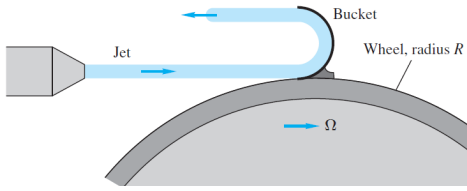

Fig. 3.12
- 3.12 A liquid jet of velocity v_j and area A_j strikes a single 180° bucket on a turbine wheel rotating at angular velocity Ω , as in Fig. 3.12. Derive an expression for the power P delivered to this wheel at this instant as a function of the system parameters. *At what angular velocity is the maximum power delivered? *How would your analysis differ if there were many, many buckets on the wheel, so that the jet was continually striking at least one bucket?